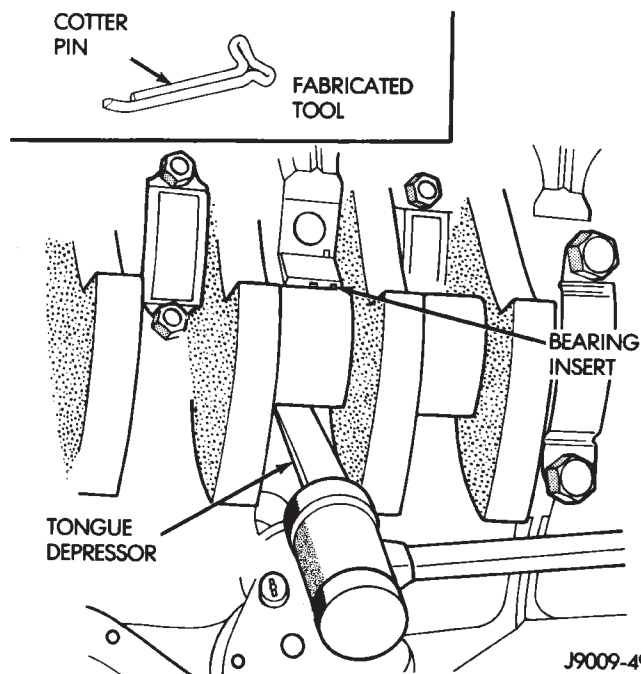

Fig. 50 Removing Upper Inserts
- (6) Remove the lower insert from the bearing cap.
- (7) Remove the upper insert by LOOSENING (DO NOT REMOVE) all of the other bearing caps. Now insert a small cotter pin tool in the crankshaft journal oil hole. Bend the cotter pin as illustrated to fabricate the tool (Fig. 50). With the cotter pin tool in place, rotate the crankshaft so that the upper bearing insert will rotate in the direction of its locking tab. Because there is no hole in the No.3 main journal, use a tongue depressor or similar soft-faced tool to remove the bearing insert (Fig. 50). After moving the insert approximately 25 mm (1 inch), it can be removed by applying pressure under the tab.
(8) Using the same procedure described above, remove the remaining bearing inserts one at a time for inspection.